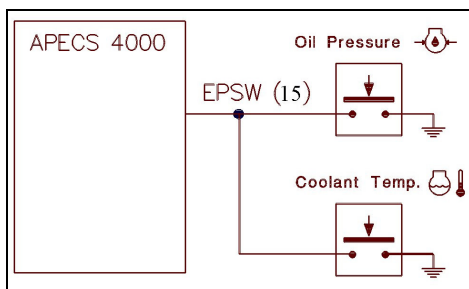
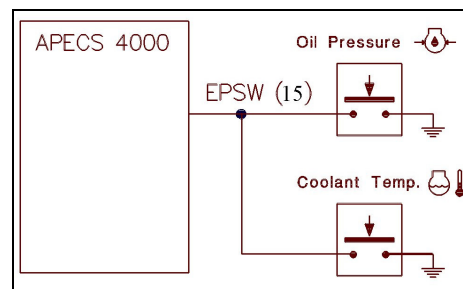

Figure 8. EP Input/Single Sensor
Figure 9. EP Input/Multiple Sensor
**Figure 8** shows how to wire the EP input. To use more than one sensor, simply wire the sensors in parallel as shown in **Figure 9**. Once the input is wired, refer to the APECS Calibration section to configure the appropriate parameters.